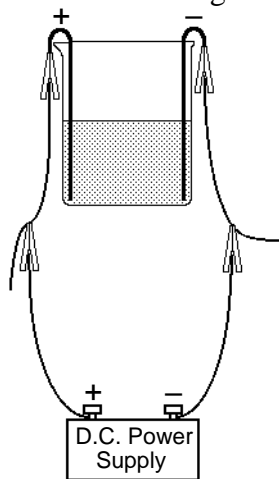

Figure 1
2. Get two lead strips. If the strips have been used before, get one labeled (+) and one labeled (-). If the strips are not marked, label one (+) and the other (-). Bend the strips and place them in a 250-mL beaker as shown in Figure 1. Attach an alligator clip to each lead strip.
- a. Attach the (-) lead from the power supply to the alligator clip on the cell’s (-) Pb electrode, as shown in Figure 1.